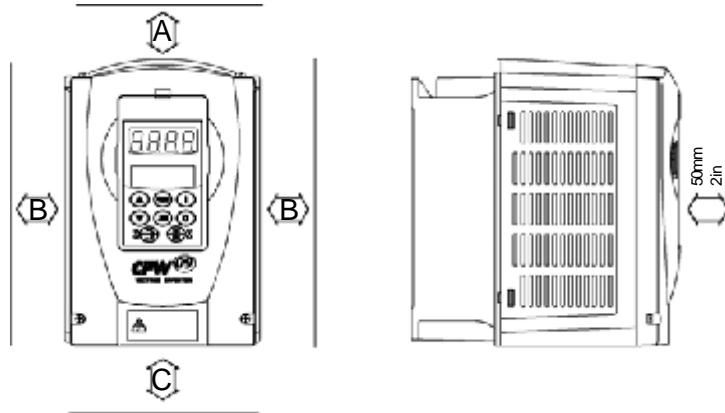

Figure 3.1 - Free Space for Cooling
- Leave free space around the inverter as shown in Fig. 3.1;